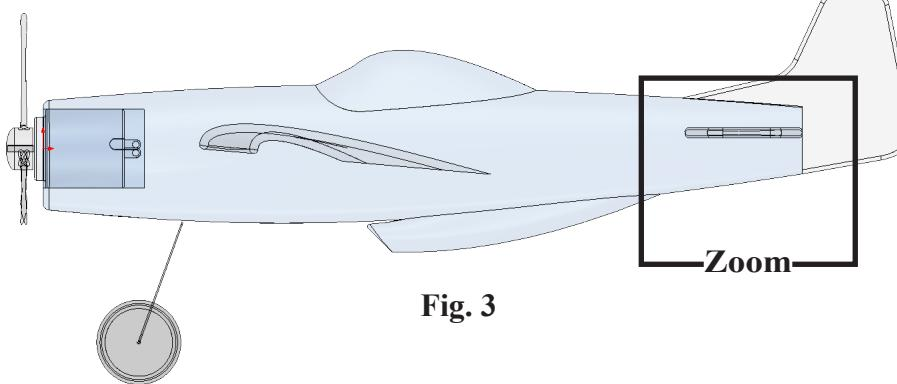

Fig. 3
Step 3. Zoom in around the **rear of Fuselage**, Fig. 3. To zoom, place the cursor over the rear and spin the wheel on mouse back. While spinning the wheel keep cursor on rear.